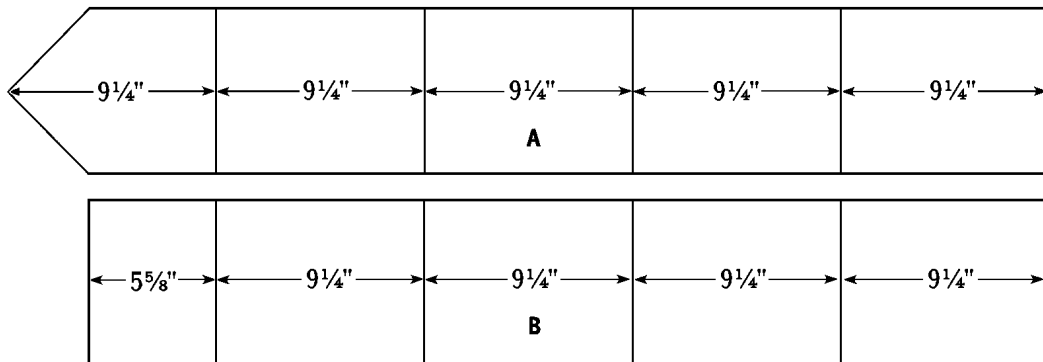

Figure 4
1. Refer to *Figure 4* to mark the trim placement lines on the two Sides (B) and one Front/Back (B), using a soft pencil.
2. Cut eight Side Trims (D) from 1 x 1 pine, each measuring 8-3/4 inches.
3. Apply glue to the meeting surfaces, and place one Side Trim (D) on the base assembly, under the penciled placement line. Nail through the Side Trim (D) into the Side (B) using two 1-1/4" finishing nails.
4. Repeat Step 3 seven more times to attach the remaining Side Trims (D) to the base assembly.
5. Cut four Front Trims (D) from 1 x 1 pine, each measuring 8-3/4 inches.
6. Apply glue to the meeting surfaces, and attach one Front Trim (E) to the front of the base assembly (you choose the best-looking peaked Back/Front [A]), under the placement line, and over the ends of the Side Trims (D). Nail through the Front Trim (E) into the Back/Front (A) and Side Trims (D) using three 1-1/4" finishing nails.
7. Repeat Step 6 three more times to attach the remaining three Front Trims (D) to the front of the base assembly.